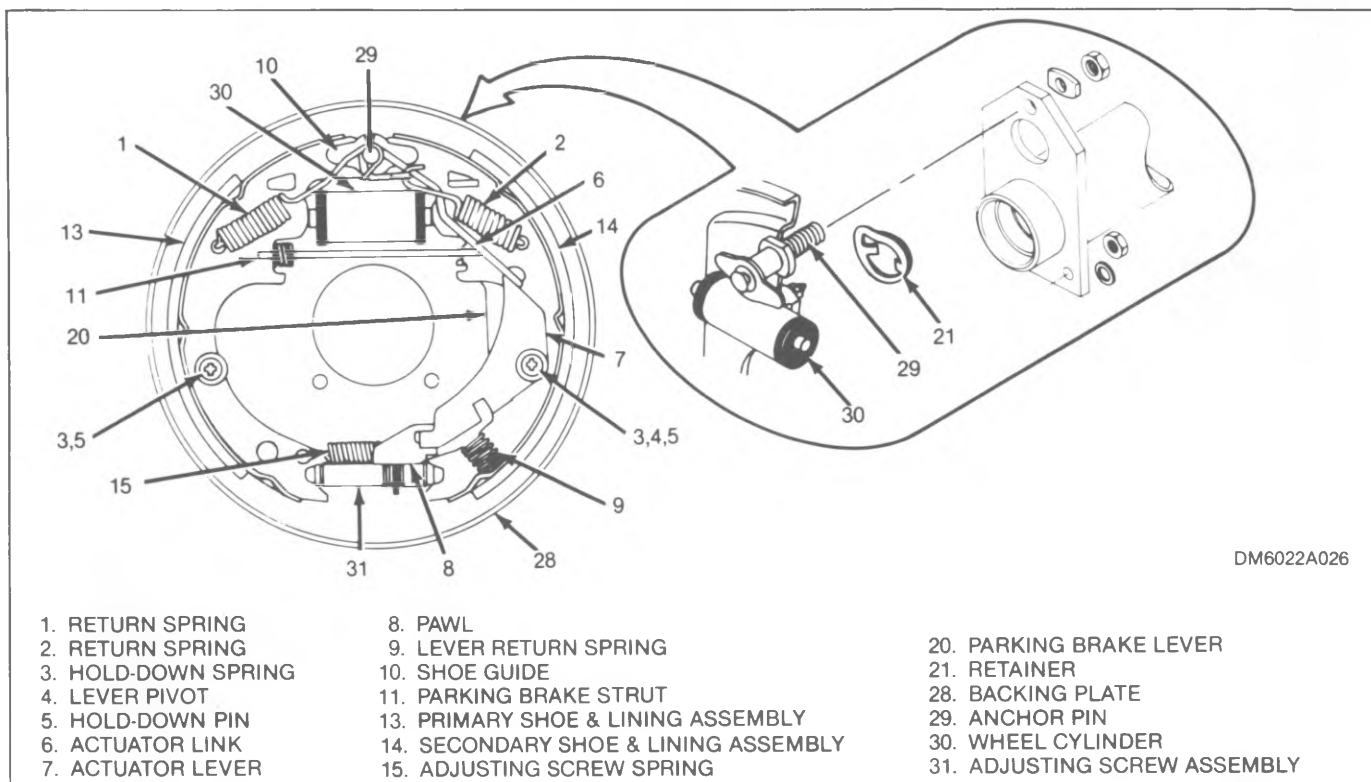

Figure 3-2. Direct Torque Duo-Servo Drum Brake
3-4. DIRECT TORQUE DUO-SERVO DRUM BRAKE (See figure 3-2). This type brake uses an anchor pin (29), which goes through the backing plate and attaches directly to the axle tube flange. The wheel cylinder (30) is attached to the backing plate by a retainer (21). Refer to paragraph 3-20 for removal and replacement of shoe and linings and brake hardware.